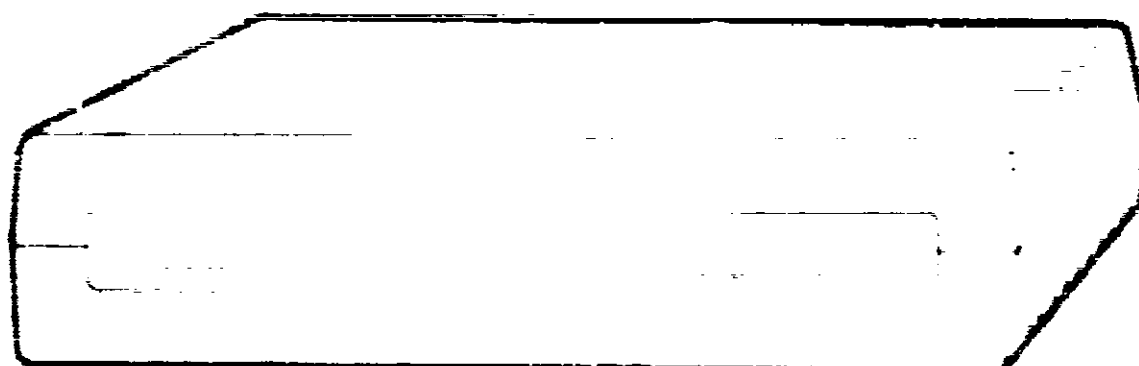

Figure 1-1 DECserver 100 Terminal Server
The DECserver 100 hardware consists of a microprocessor module, power supply, and fan, mounted in a metal case that provides radio-frequency (RF) shielding. The unit is contained in an outer plastic case (Figure 1-1) and is available in two models: